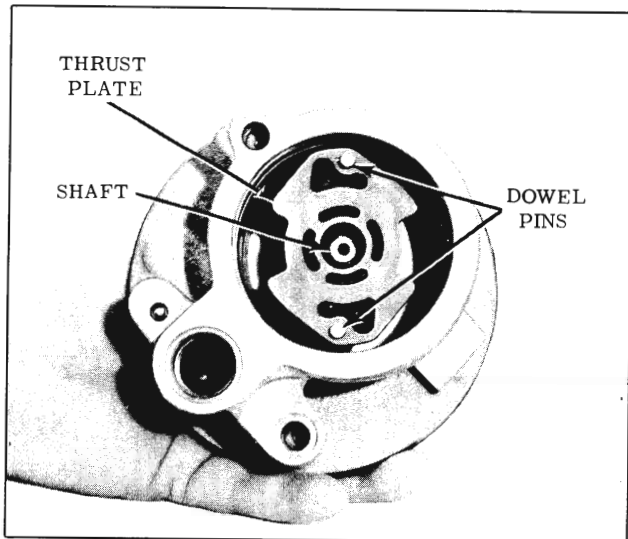

Fig. 4-240 Installing Dowel Pins
2. Insert dowels in holes in body. Install thrust plate on dowel pins with ported face to rear of pump housing. (Fig. 4-240)